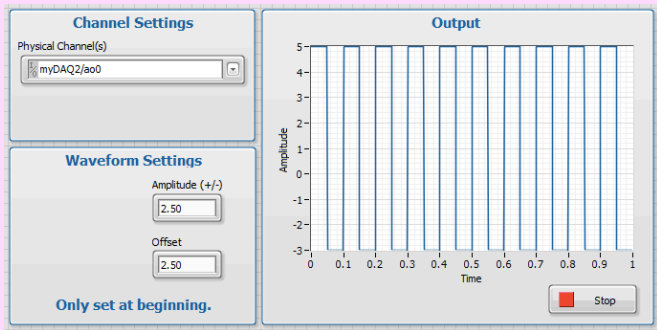

Figure 1: Buzzer Demo Front Panel
Step 2: Download the LabVIEW files from the Resource tab, open the Buzzer Sensor Module, and open the VI titled “Buzzer Demo.vi”. On the front panel should be a slider control for frequency (Figure 1). This will allow the user to vary the frequency of the digital signal sent to the buzzer, and therefore vary the frequency of the sound emitted by the buzzer.